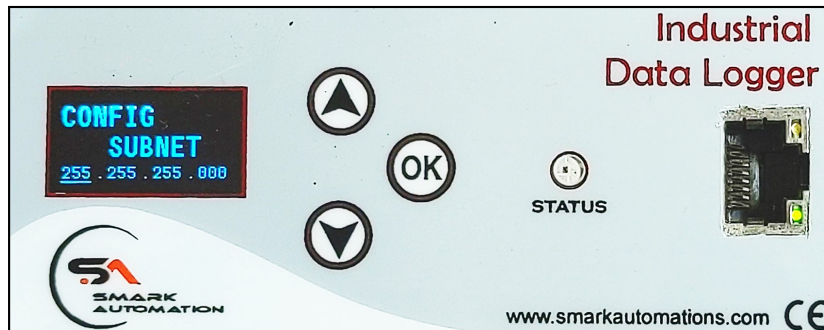

Figure 25: Configuring Gateway
- 3. Enter Gateway:** Next, user will be prompted to enter the Gateway, as shown in Fig 25. Once all three parameters are set, a confirmation message will appear: "NW Conf Set Reset Device to Apply".